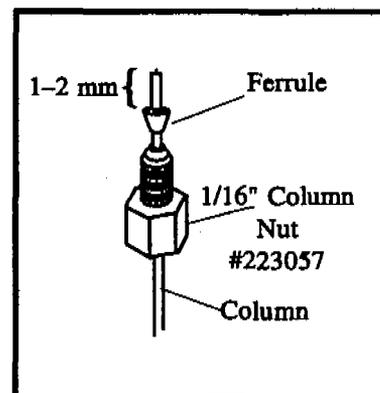

Figure 3.3. Capillary Column
- Open the GC oven door to install the column. Slide the column through the nut (Part #223057) and the appropriate GRP/VSP tube ferrule. Note the proper orientation of the ferrule, with the tapered end toward the nut (see Figure 3.3).
- Slide a 1/16" GRP/VSP ferrule onto the column (with the tapered end facing toward the column nut) (see Figure 3.3). See Table 3.1 for the appropriate ferrule.